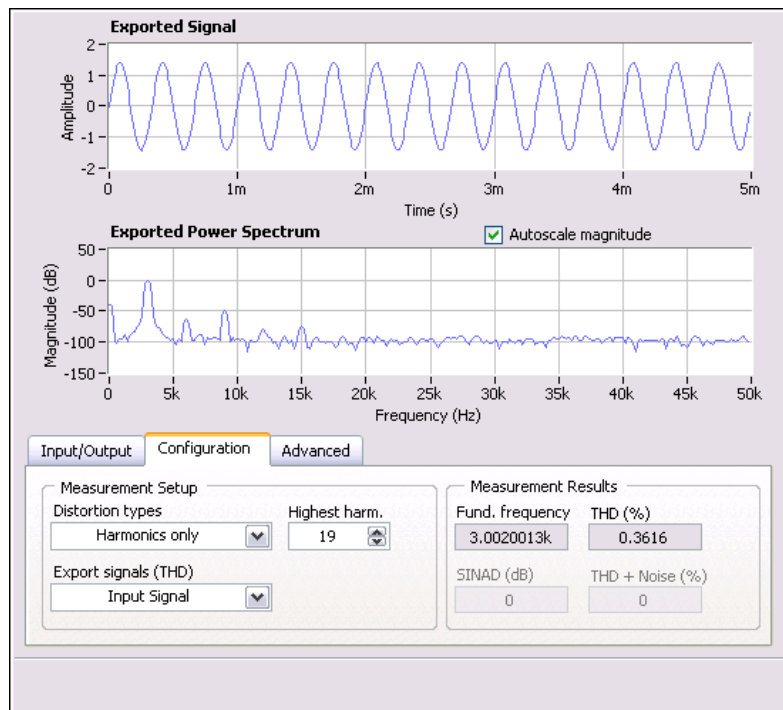

Figure 2-3. Distortion Step Setup Tab
1. Double-click the Distortion step in the **Project View**. SignalExpress displays the **Step Setup** tab for the Distortion step, as shown in Figure 2-3.